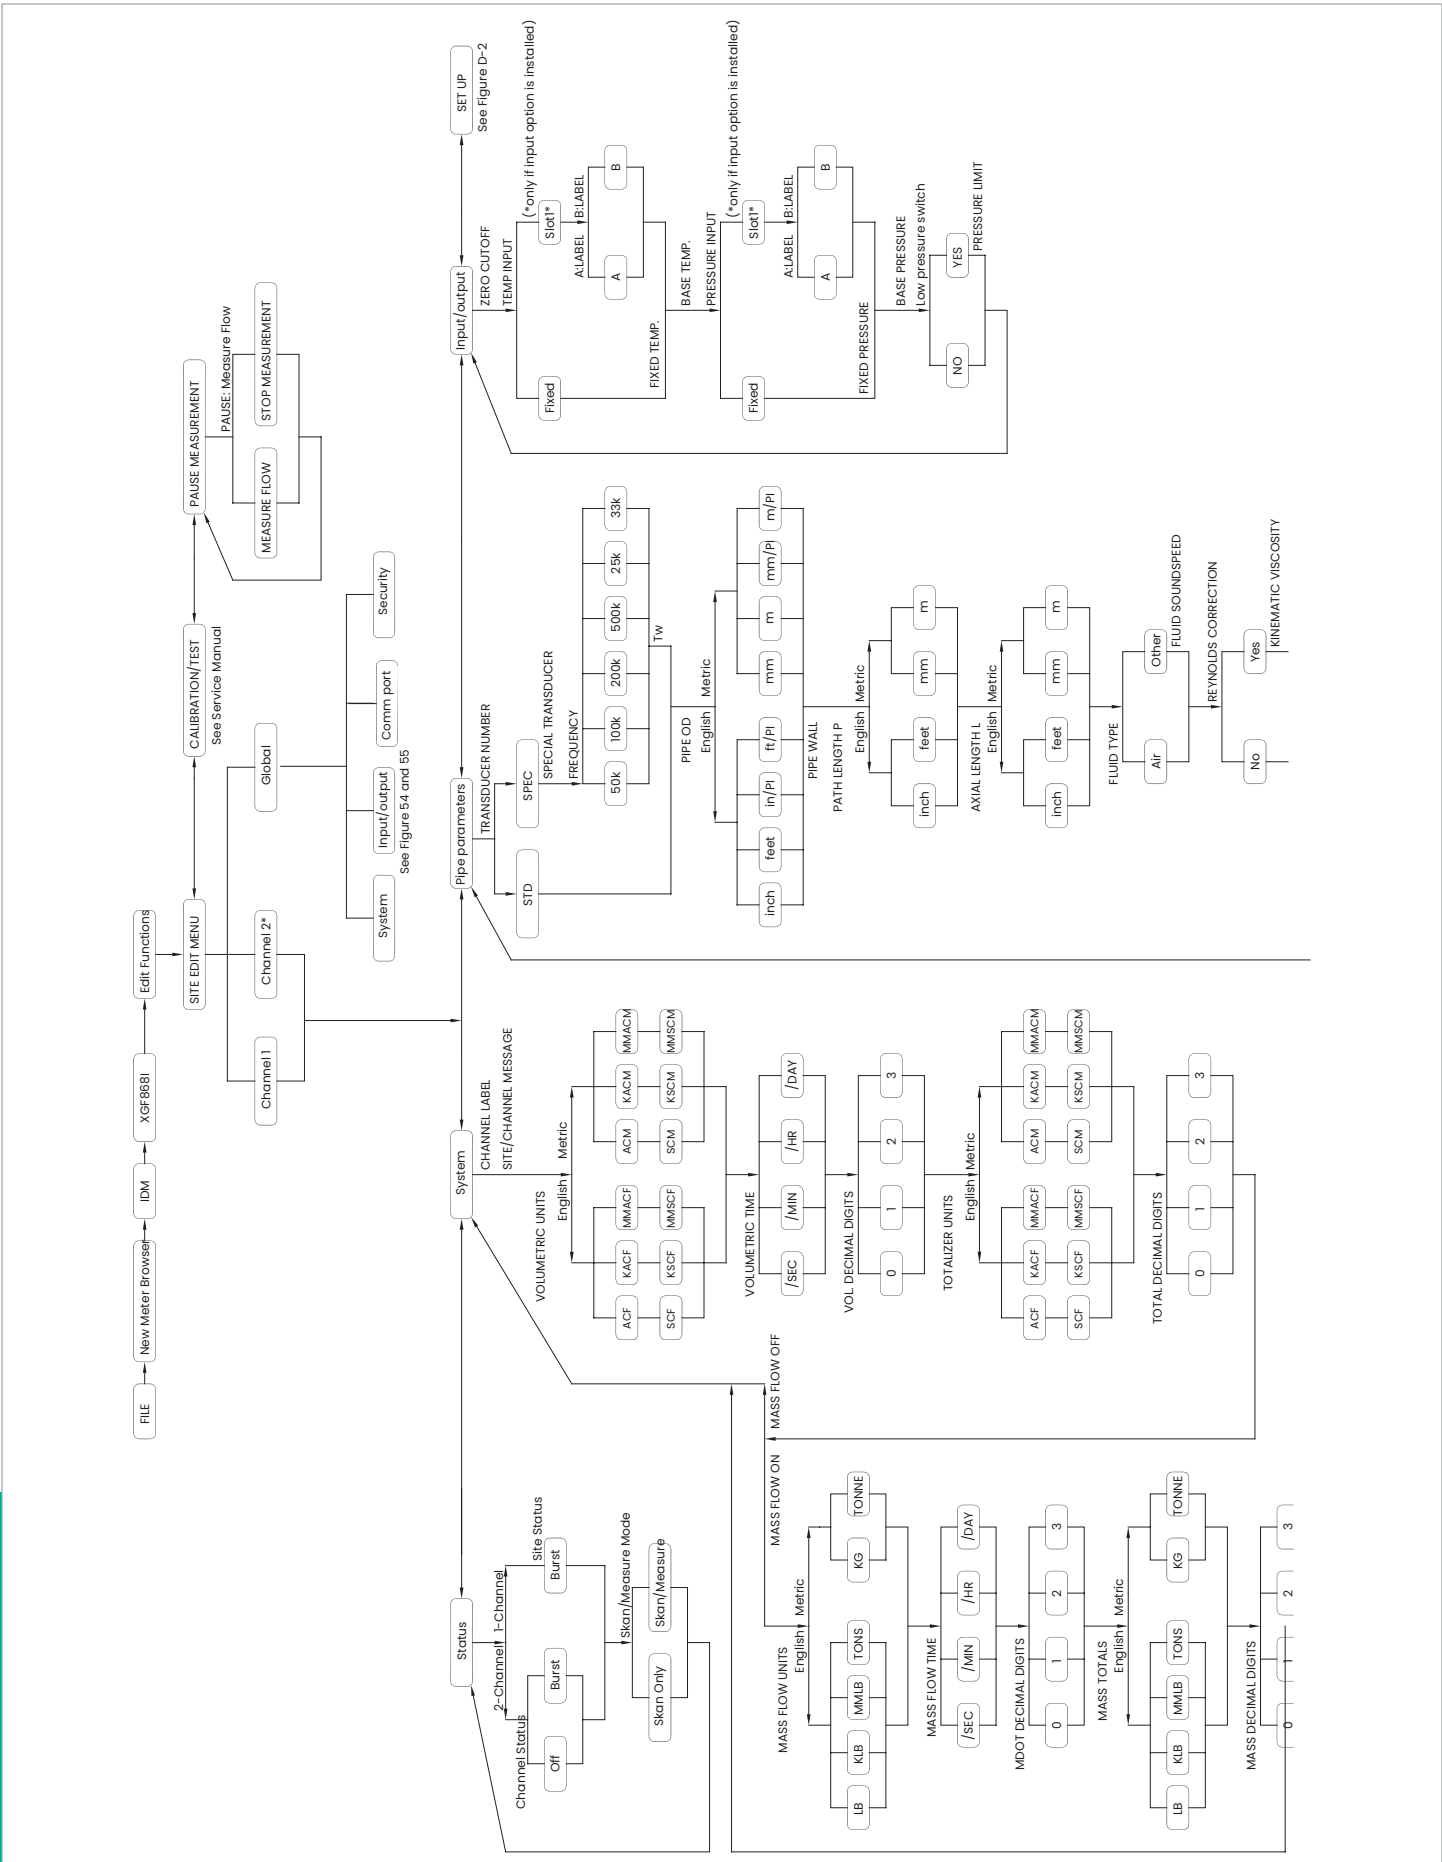

Figure 55: PanaView PROG > CHx > ACTIV, SYSTM, PIPE and I/O menus
- *Figure 55 on page 80, "PanaView prog > CHx > ACTIV, SYSTM, PIPE & I/O menus*